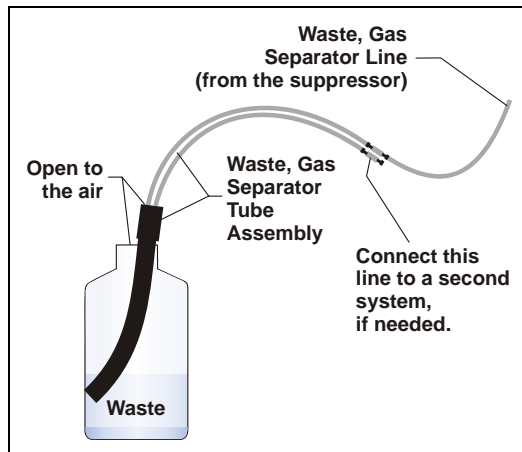

Figure 31. Waste, Gas Separator Tube Installation
2. Connect the **WASTE, GAS SEPARATOR** line from the suppressor to one of the 3-mm (1/8-in) ID white PTFE lines on the waste, gas separator tube assembly (see Figure 31).
DO NOT CAP THE WASTE CONTAINER: In the ICS-2100, the Atlas[®] Electrolytic Suppressor and Self-Regenerating Suppressor (SRS) use an electrolytic process that results in the production of small amounts of oxygen or hydrogen gas. To ensure that the gas is not trapped in a closed container and allowed to concentrate, install a 1.3-cm (0.52-in) ID black waste, gas separator tube (P/N 045460) in an uncapped waste container. Connect the Waste, Gas Separator line to the waste tube (see Figure 31).